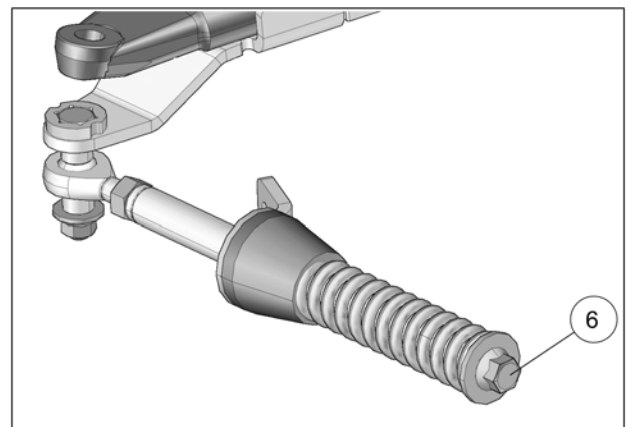

Fig. 22
10. Verify that spring assembly bolt (6) is tightened to the recommended torque specification: 75 N•m [55 lb•ft]. Refer to Fig. 22